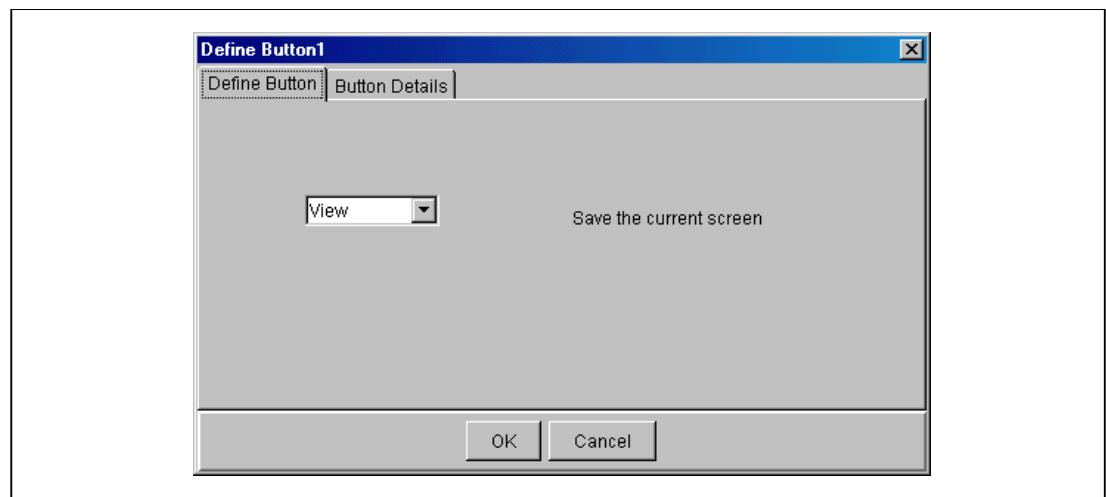

Figure 17: Configure a button to change the view
2. Select the **Define Button** tab and choose **View** in the drop-down menu as shown in Figure 17.